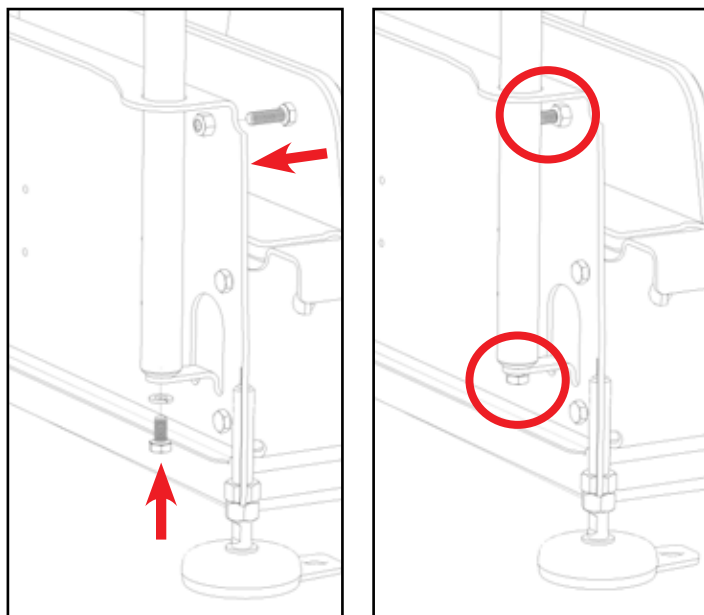

Fig. 5.2: Handrail stabilization bolts
2. Using a 1/2" wrench or socket, secure the handrails in place using the included 5/8" length bolts, with lock washers, to the bottom bracket of the each handrail [Figure 5.2].
3. Using two 1/2" wrenches tighten the bolt through the locknut until the bolt bottoms out against the handrail to secure in place [Figure 5.2].